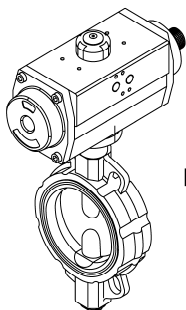
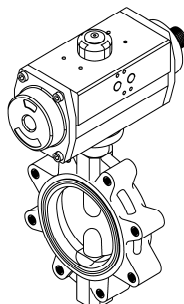
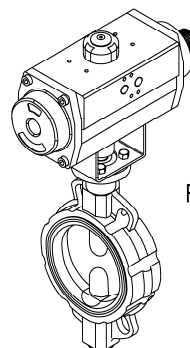
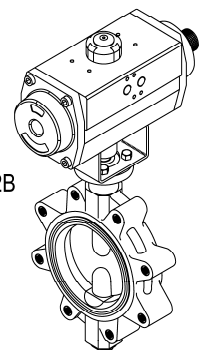

Fig. 1A
Fig. 1B
Fig. 2A
Fig. 2B
- Mounting of the actuator on the valve can be carried out directly (figures 1A and 1B) or by using a mounting bracket (figures 2A and 2B).
### Mounting the actuator directly on the valve (Fig. 1A and Fig. 1B)
### Mounting the actuator on the valve by using a mounting bracket (Fig. 2A and Fig. 2B)